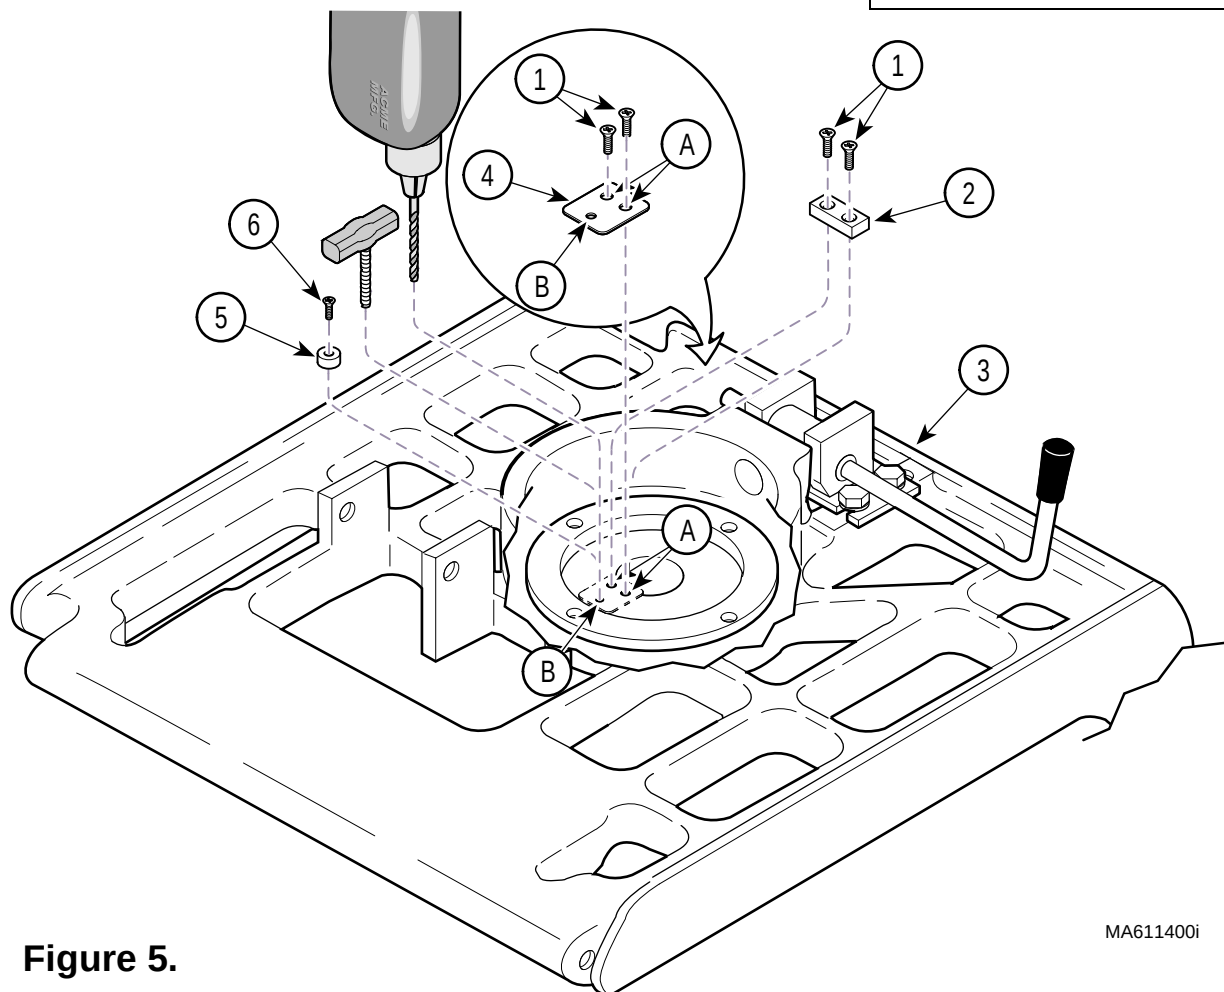

Figure 5.
- (1) Turn table top upside down.
- (2) Remove two screws (1, Figure 5) and old seat rotation stop (2) from seat casting (3).
- (3) Position template (4) so that two holes (A) align with holes used for old seat rotation stop (2); then secure template with two screws (1).
- (4) Using hole (B) of template (4) as a guide, drill a 1/8" pilot hole in seat casting (3).
- (5) Remove two screws (1) and template (4).
- (6) Using 1/8" pilot hole as a guide, drill a 0.257" hole using the "F" size drill bit (*supplied*).
- (7) Use a 5/16"-18 tap to thread 0.257" hole (B) drilled in seat casting (3).
- (8) Install new seat rotation stop (5) and secure with screw (6).